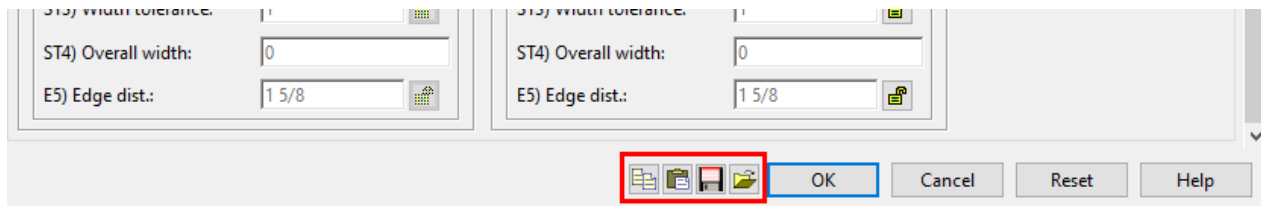

Figure 4-4. Save or Open Form
2. Select the save button at the bottom of the *DuraFuse Component Dialog*, see Figure 4-4.